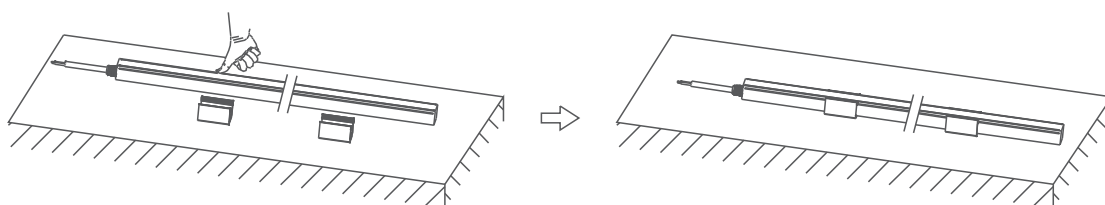

Figure 2
2. Install the neon flex into the clip, the installation is complete, as shown in Figure2